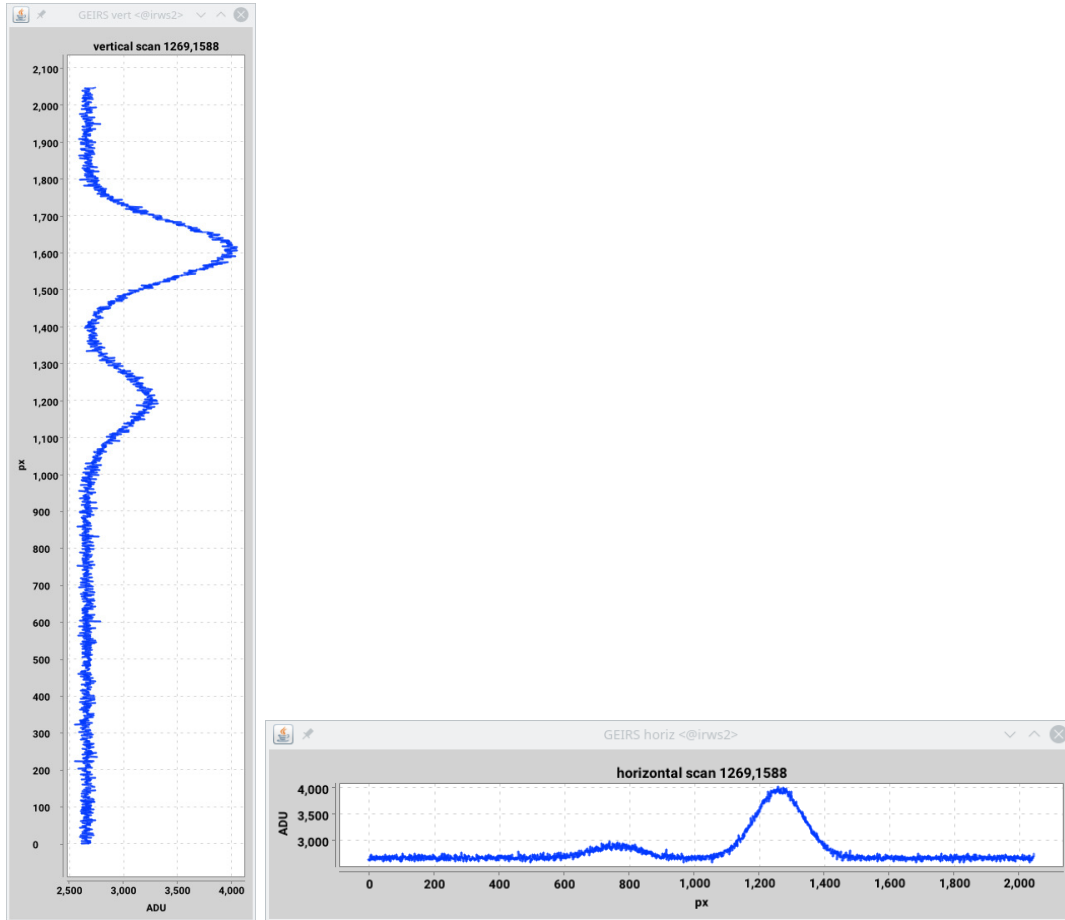

Figure 17: Examples of cut plots activated with the `horiz.` or `vert.` buttons of Fig. 16.
**4.3.3.10 Horizontal/vertical Slice.** In the next row the `horiz.` and `vert.` buttons open plots that show the pixel values along two straight lines that cut horizontally and/or vertically through the image at the “hot pixel” marked by the center of the cross (Figure 17).37 The plots are updated if new images arrive or if the hot pixel is moved. The titles of the plots indicate the FITS x and y coordinates of the common crossing of the two cuts. The buttons are green while the plots are active. The two graphs should be closed by clicking again on the buttons; their color will switch back to gray if de-activated.